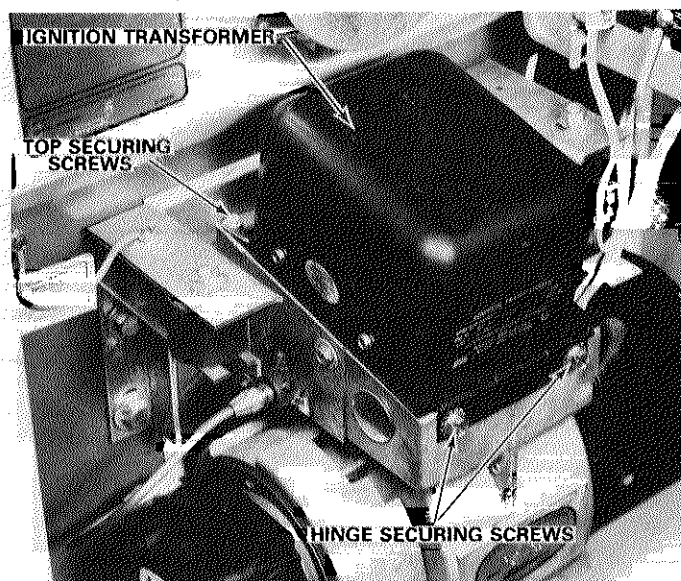

FIGURE 6
- 1 - Loosen screws securing top of transformer. Refer to Figure 6.
- 3 - Remove screws securing transformer hinge to burner box. See Figure 6.